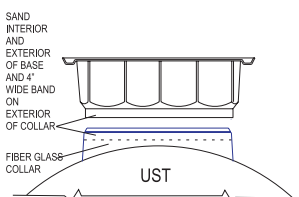

FIGURE 2
B. If your sump came from the factory with a bottom by cutting it out 3/4" above the bottom. Refer to FIGURE 2.
D. Sand a 4" wide band on the exterior of the UST collar where the base is to be joined. Refer to FIGURE 2.